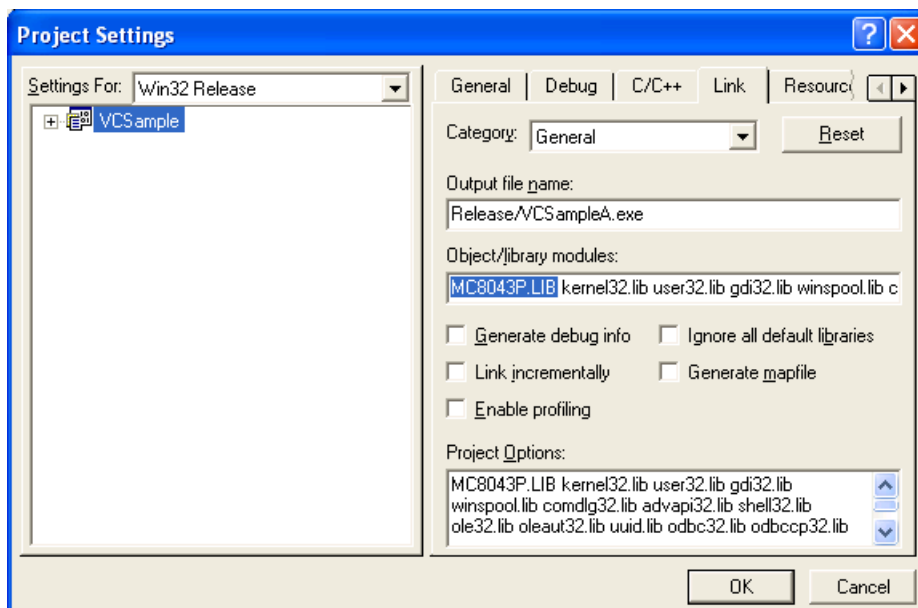

Fig. 9.3-1 VC++6.0 Project Settings
(See Fig. 9.3-1 VC++6.0 Project Settings)
- (1) Copy two files, MC8043P.lib and MC8043P\_DLL.h in \Lib\VC6 folder to the application's folder to development.
- (2) Add MC8043P\_DLL.h to your project in VC++ and delete the existing MC8041P.h from your project. Then change “#include MC8041P.h” to “#include MC8043P\_DLL.h” in the source file. However, if you have added extra modification to MC8041P.h, the extra modification must be remained.
- (3) For VC++6.0 users, go to [Project] – [Settings] – [Link], and then delete “MC8041P.lib” from [Object/library modules], then designate “MC8043P.lib”. (See Fig. 9.3-1 VC++6.0 Project Settings)